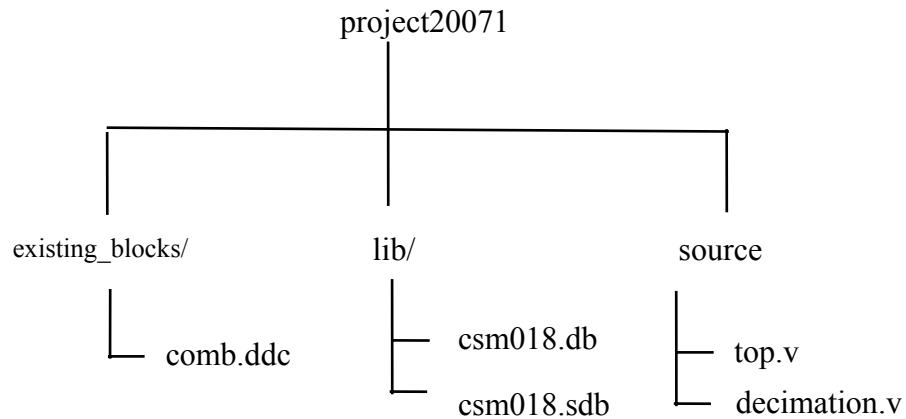

Figure Q3b
- Q.3 (c) Suppose you are going to compile a design using Synopsys Design Compiler (DC). The design contains two Verilog source files, e.g. top.v and decimation.v. Figure Q3b shows the file structure for the design, where csm018.db and csm018.sdb are technology library files, comb.ddc is a Verilog module required by decimation.v. Generate a DC setup file under directory “project20071” to initialize DC.